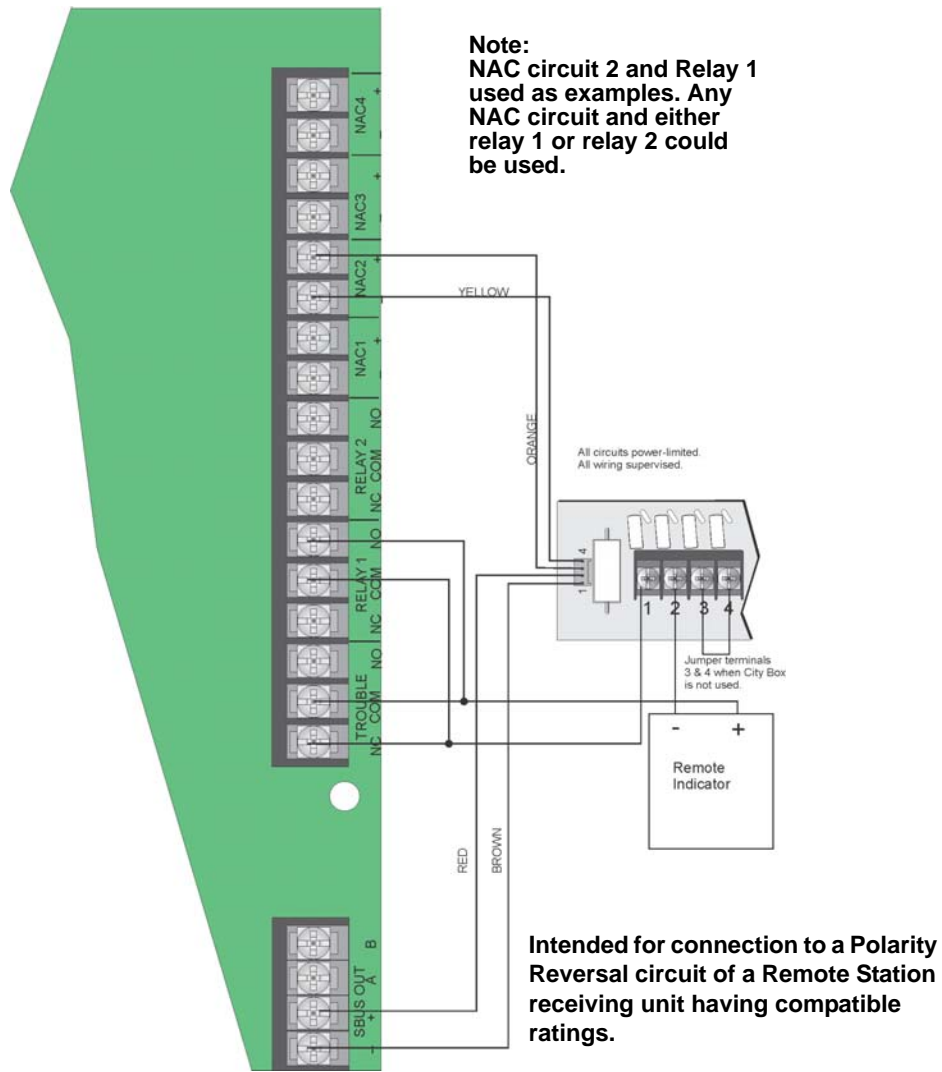

Figure 4-45 Polarity Reversal Connection Using the 5220 Module
2. Wire the 5220 to the control panel using the four-wire pigtail provided as shown in Figure 4-45. This diagram also shows how to connect the 5220 to the remote indicator. Do not install an EOL resistor in the terminals of the NAC circuit used for this application.